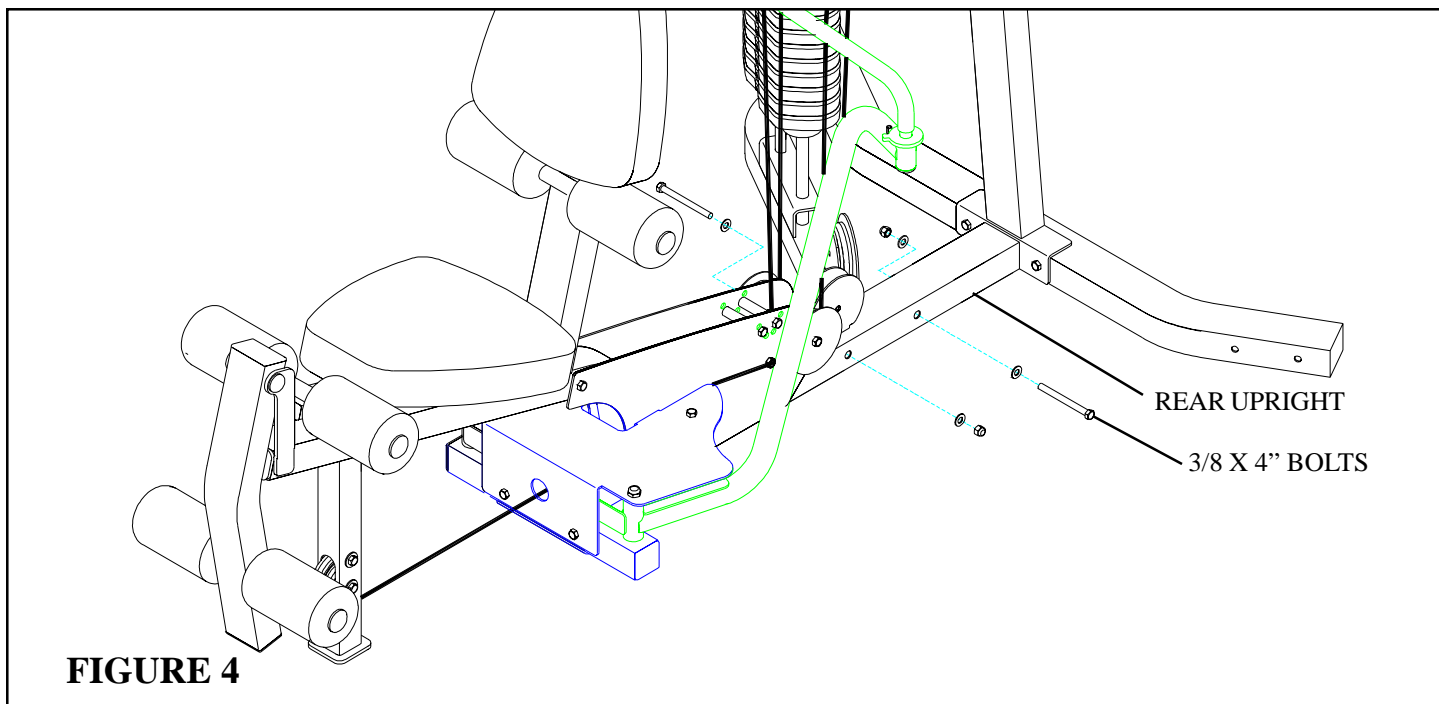

**FIGURE 3**
- SECURELY** assemble the PULLEY BRACKET (15) and the PEC STATION PAD to the FRAME using two  $3/8 \times 3$  inch BOLTS (18). See FIGURE 3.
- Remove the two 3/8" BOLTS, 3/8" WASHERS and 3/8" LOCK NUTS from the STACK BASE as shown in FIGURE 3.
- **SECURELY** assemble the LEG PRESS ADAPTER (1) to the STACK BASE using the previously removed 3/8" BOLTS, 3/8" WASHERS and 3/8" LOCK NUTS as shown in FIGURE 3.